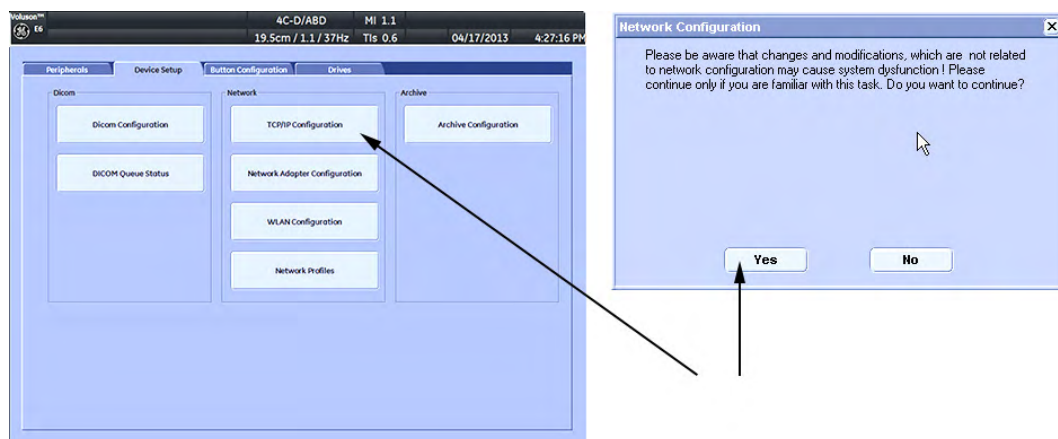

Figure 3-65 TCP/IP Configuration
5. Click the **WLAN Configuration** button; see Figure 3-65 on page 3-70.
3. Click the **WLAN Configuration** button; see Figure 3-65 on page 3-70.